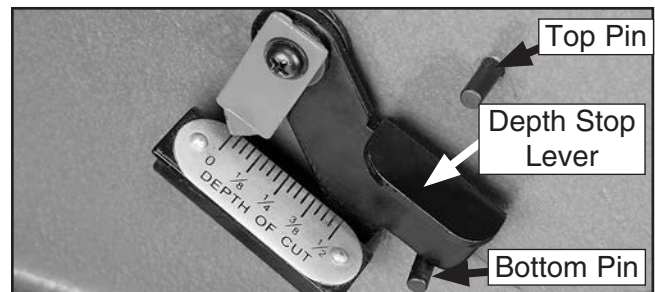

Figure 57. Depth stop lever set at "0".
6. Using a screwdriver, adjust the scale pointer exactly to "0", as shown in **Figure 57**.
A depth stop lever (**Figure 57**) above the depth scale allows the operator to set the maximum depth of cut to $\frac{1}{8}$ ".
To engage the lever, position it as shown in **Figure 57**. To disengage the lever, raise the table to "0", then raise and hold the lever against the top pin while lowering the table to the desired height.